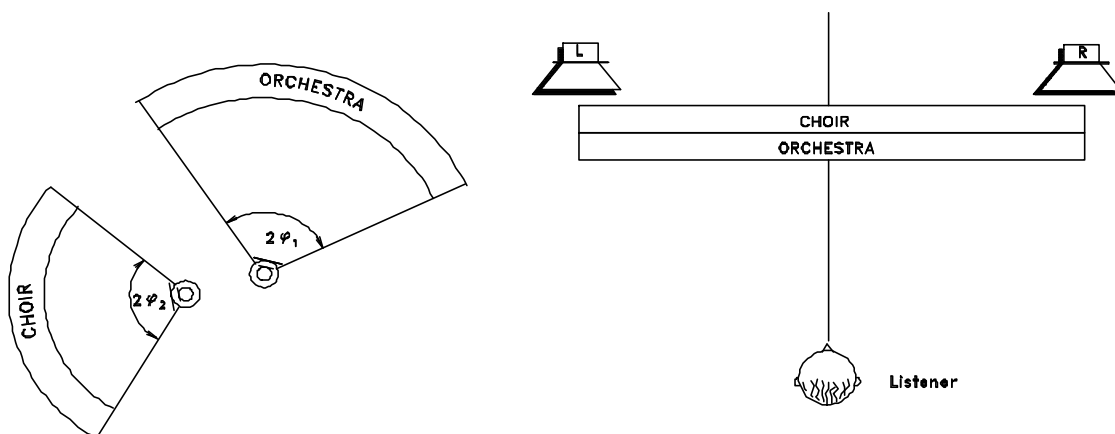

Fig. 31
4. Integration of separated sound sources into the total sound picture (Fig. 31): On the one hand there is often not enough room to arrange all partial sources in the recording range of the main microphone. On the other hand it is useful to arrange all sources around the conductor. The sound signal of a separated source is picked up with its own coincident microphone.